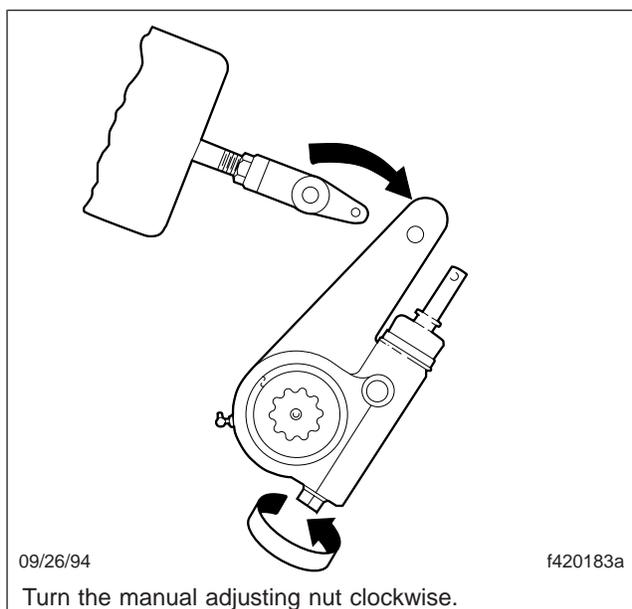

Fig. 3, Slack Adjuster Removal
5. Using a wrench, manually turn the square adjusting nut clockwise to move the slack adjuster away from the clevis. See Fig. 3.